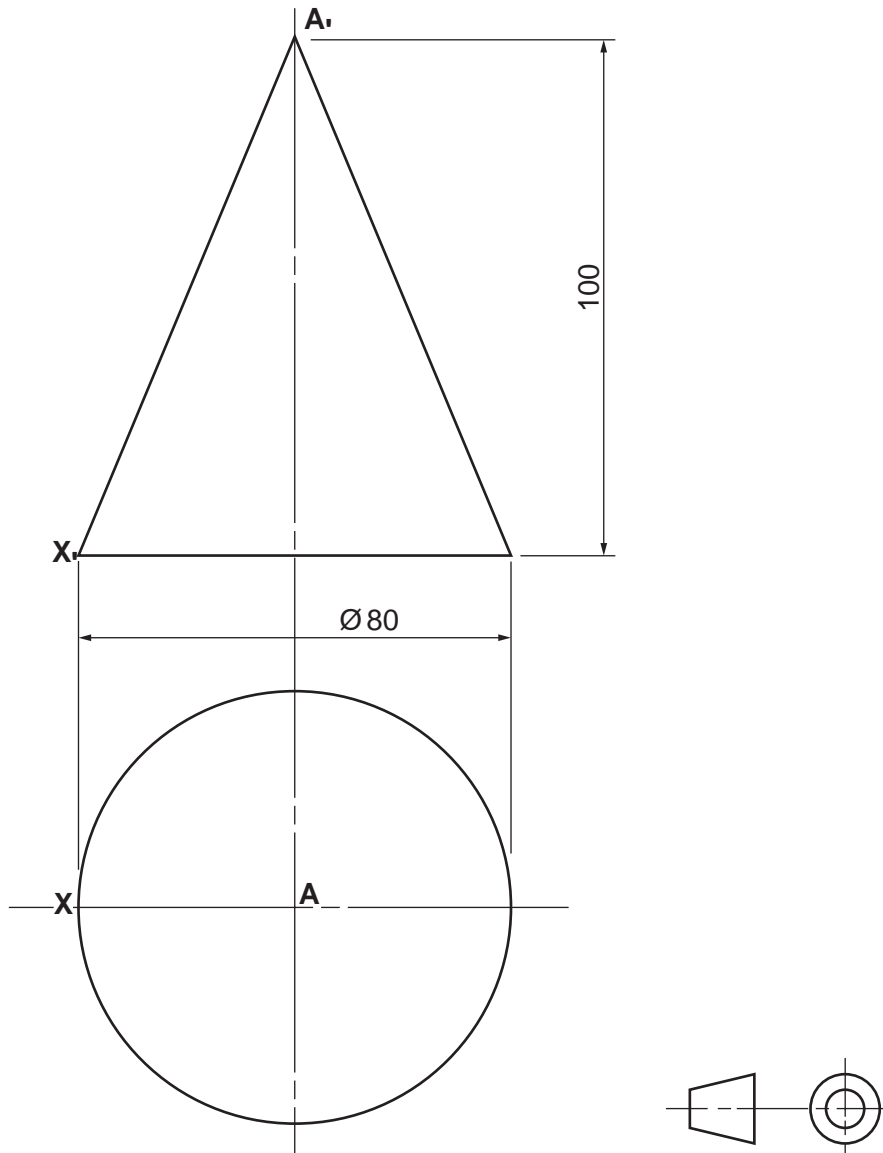

Fig. 8
- 8 Fig. 8 represents a clear plastic cone around which a fine line has been cut, with a constant pitch, on its outer surface. It commences at point **X** and terminates at point **A**, having completed  $1\frac{1}{2}$  turns of the helix.